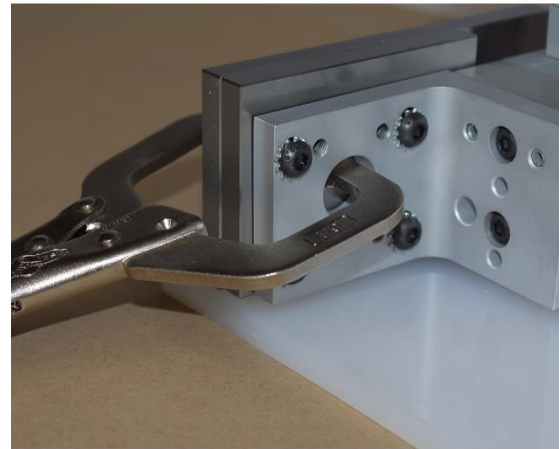

Figure 2
In order to adjust the jaws on your MMP, you will need a 2.5mm and a 4mm hex key. If your MMP needs coarse adjustment, you will also need something to clamp the jaws together. (A small locking C-clamp, as shown, is recommended [figure 2, page 8].)
2. Clamp the two jaws together using the hole in the center of the bracket as shown, being careful to avoid clamping the bracket as well. While tightening the clamp, align the top and outside edge of the jaws (figure 2).